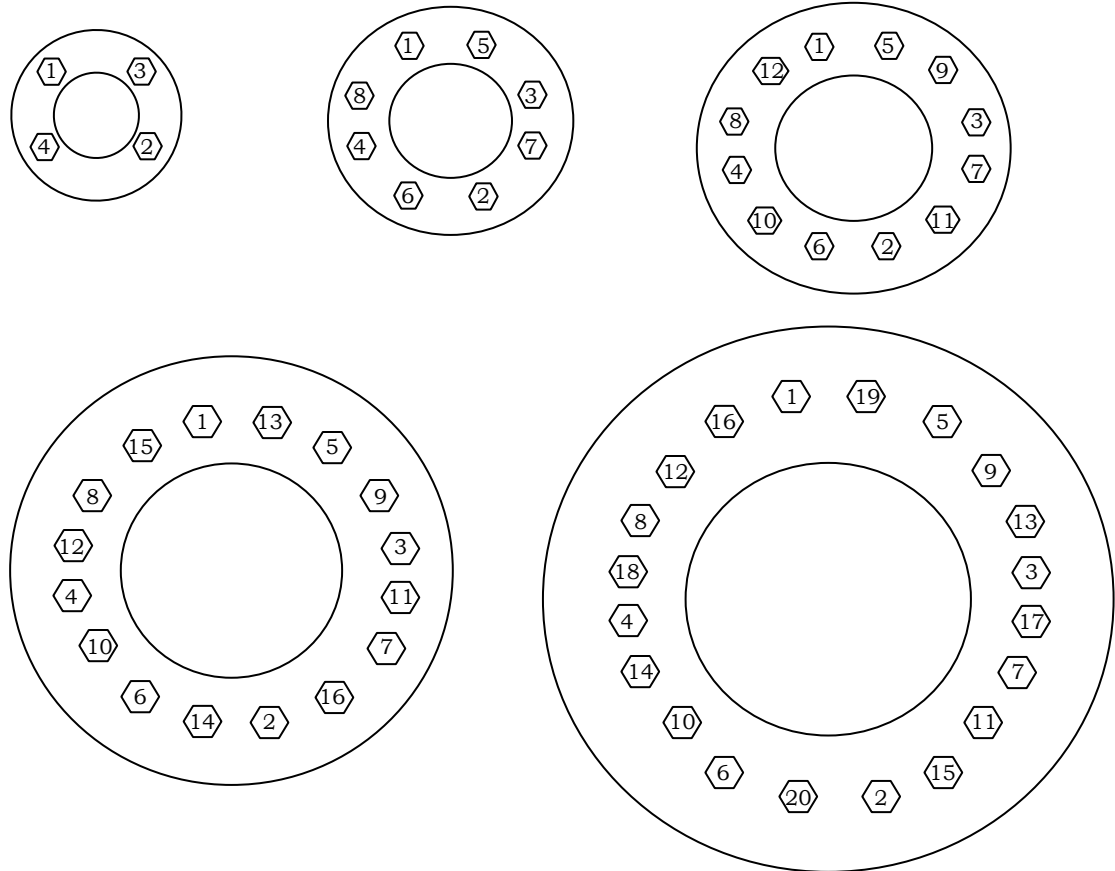

FIGURE 2. Bolt Tightening Sequence
- Step 4. Assemble the valve to the pipe using properly sized bolts for application. See Tables 4 and 5 below. Progressively tighten to the torque value recommended by the seal gasket provider. See Figure 2 for recommended method.
Leakage through the bonnet joint may be corrected by tightening bonnet bolts. Reference Table 7 below for recommended torque values depending on bolt size. See Figure 2 for recommended tightening sequence. If tightening does not correct leakage, replacement of graphite gasket will be required.